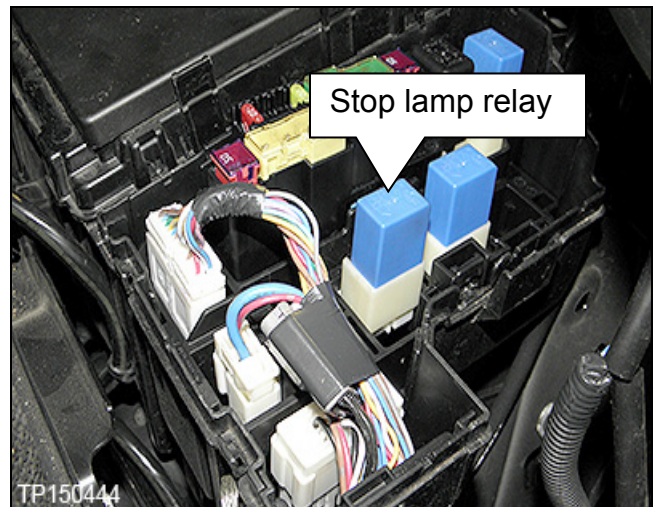

Figure 3
4. Locate and remove the stop lamp relay (Figure 3).